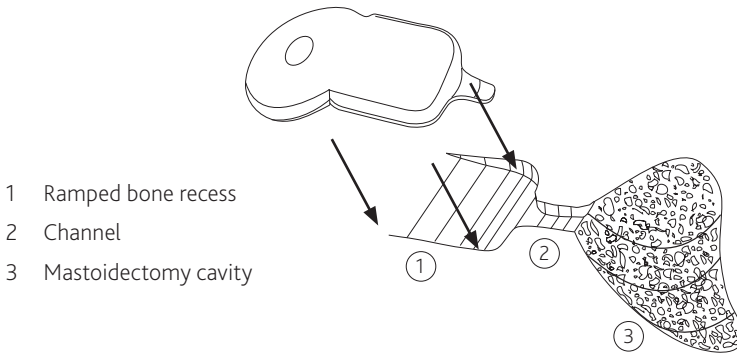

Figure 7: Ramped bone recess, electrode channel and mastoidectomy
5. Drill a channel to connect the bone recess and mastoid cavity – see *Figure 7*. The channel will help protect the electrode against trauma.